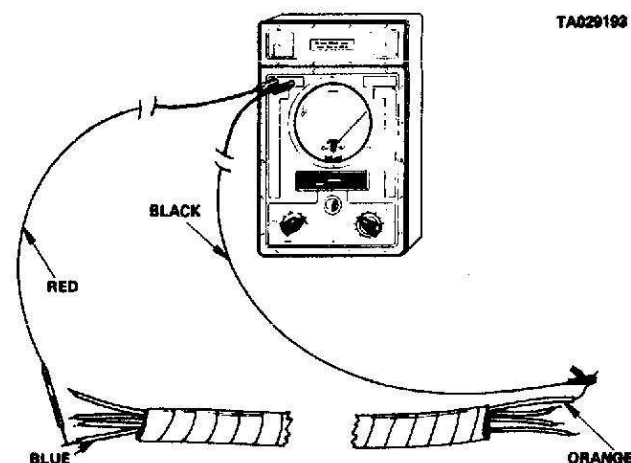

Figure 2-18. Using the Meter to Test for Shorts or Grounds.
(3) Connect one probe to one circuit and the other probe to the other circuit or to ground (figure 2-18). The figure shows how to test for a short between wires "A" and "B".
(4) Read the meter. Interpret the results as follows: